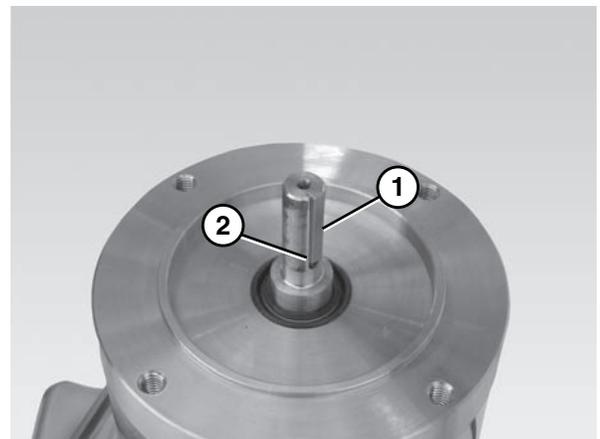

Figure 37
7. Insert the gearmotor output shaft key (Figure 37, item 1) into the gearmotor output shaft keyway (Figure 37, item 2).
**Ensure the gearmotor output shaft key (Figure 37, item 1) is situated properly before attaching the motor to the gear reducer.**